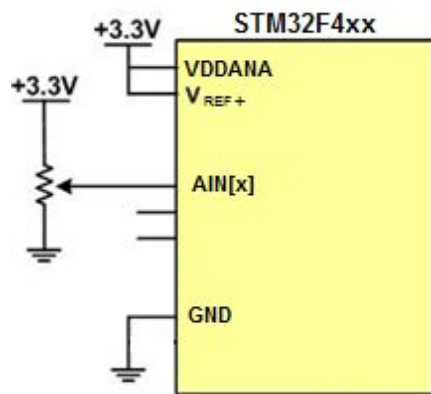

Figure 7-16: ADC Connection for Program 7-1
- Program 7-1 illustrates the steps for ADC conversion shown above. Figure 7-16 shows the hardware connection for Program 7-1.